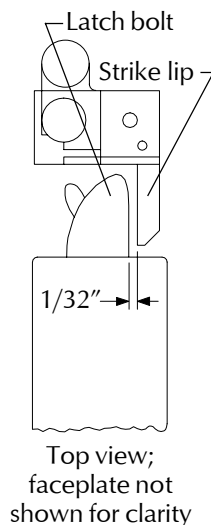

Figure 3
6. Install strike with two #12-24 screws. Make sure clearance between latch bolt and strike lip is 1/32" (Figure 3). If not, uninstall strike, adjust (Figure 4), and reinstall.